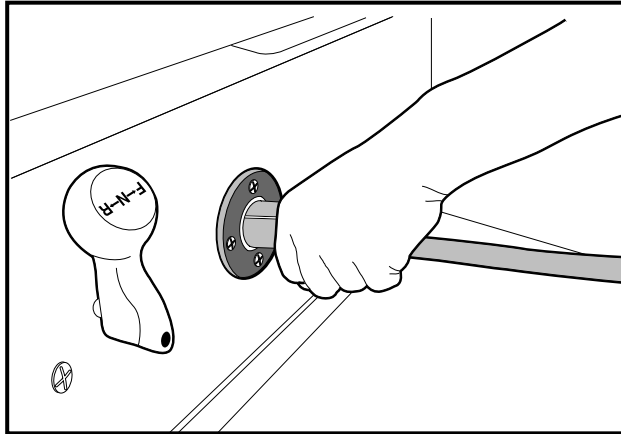

Figure 14 Correct Insertion of Charger DC Plug
- Do not rock or bend the plug. To connect the charger plug to the vehicle receptacle, grasp the plug handle and push the plug straight into the receptacle (Figure 14, Page 32).
Insert the charger DC plug into the vehicle receptacle. The charger will turn on two to ten seconds later (**Figure 14**).